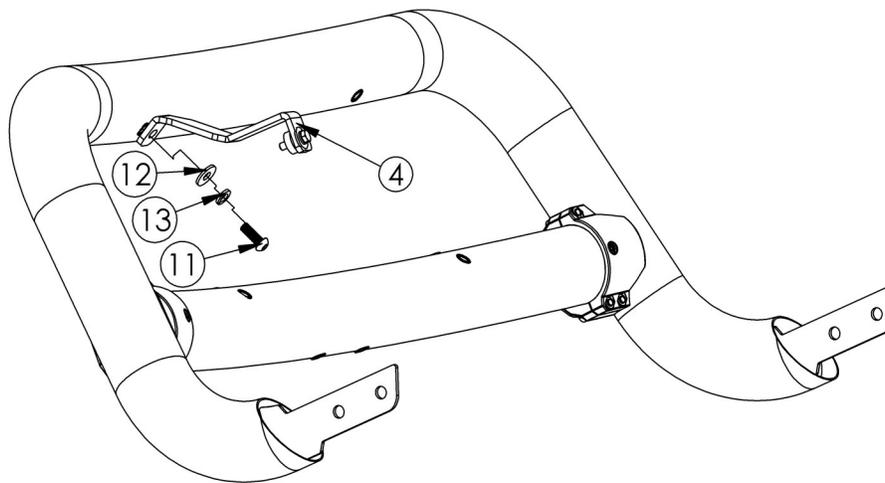

Fig. 15
9. Loosely attach the other end of the upper support straps to the bull bar using (2) M10 button head cap screws, (2) M10 split lock washers, and (2) M10 flat washers. (**FIG 15**)